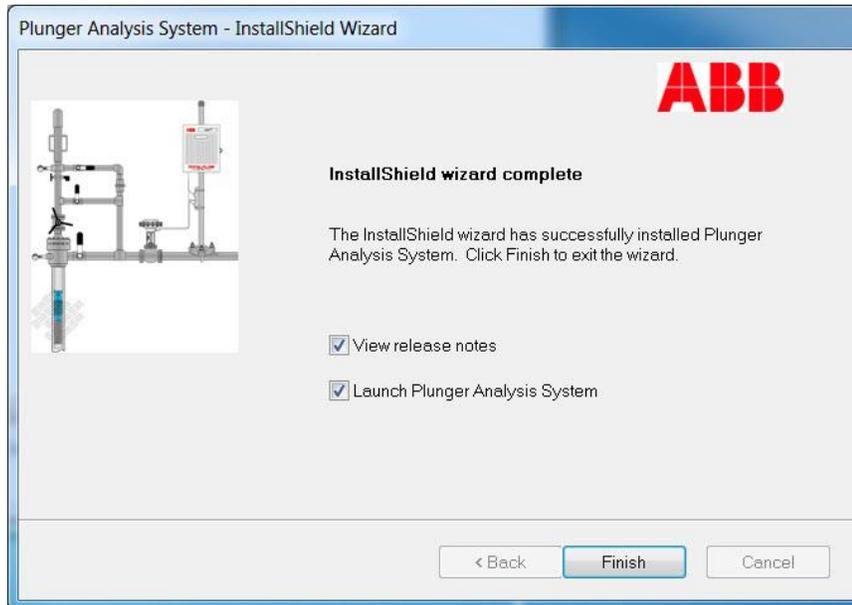

Figure 25: InstallShield Wizard Complete screen
23) Wait for the InstallShield® Wizard Complete screen (Figure 25) to display.